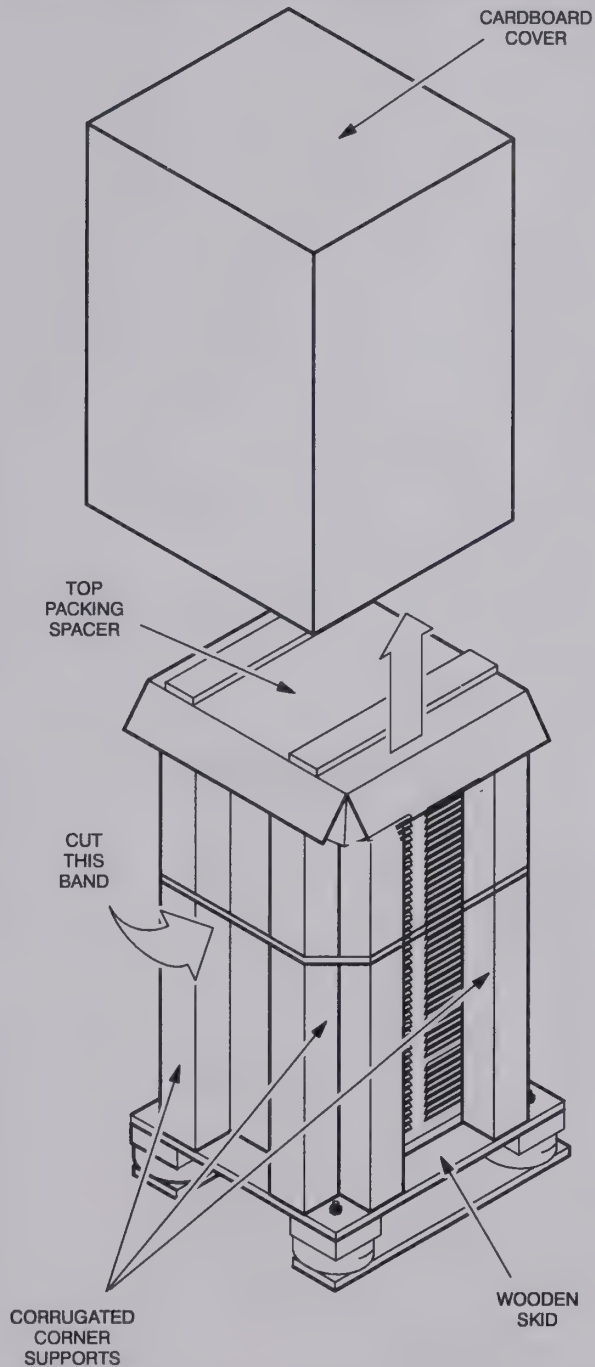

**Figure 4-1.** Unpacking Procedures for Nucleus Paging Stations without Cabinets
*Nucleus* stations without cabinets (ordered with Option X362, omit cabinet) are packed in a cardboard box with styrofoam interior spacers and cardboard stiffeners. Unpack as described in Figure 4-1.